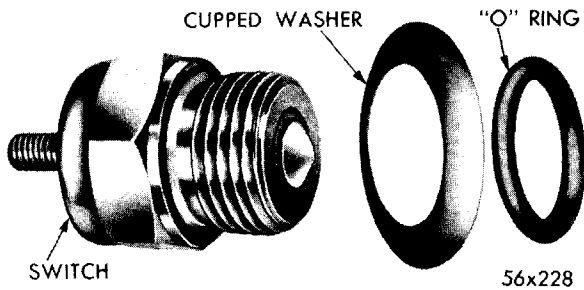

Fig. 10—Neutral Starting Switch (Disassembled)
(1) With proper control cable adjustment assured, depress the N (neutral) push button.
(2) Raise vehicle and drain approximately two quarts of fluid from transmission.
(3) Unscrew neutral starting switch from transmission case and check to see that switch operating lever is aligned in center of switch opening in the case.
(4) Place cupped washer and "O" ring over threads of the switch (Fig. 10), then screw switch into transmission case a few turns.
(5) Connect one lead of a test lamp to battery current and the other lead to the switch terminal. Screw switch into transmission case until the lamp lights, then tighten switch an additional $\frac{1}{3}$ to $\frac{1}{2}$ turn.